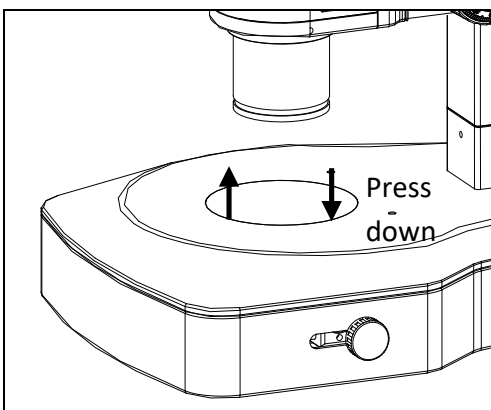

Fig.9
2. To remove the stage plate, use fingertip to press down on the stage plate near its edge (as the arrowhead direction shown in Fig. 9), this will cause other end of stage plate to lift up for removal. (See Fig. 9)